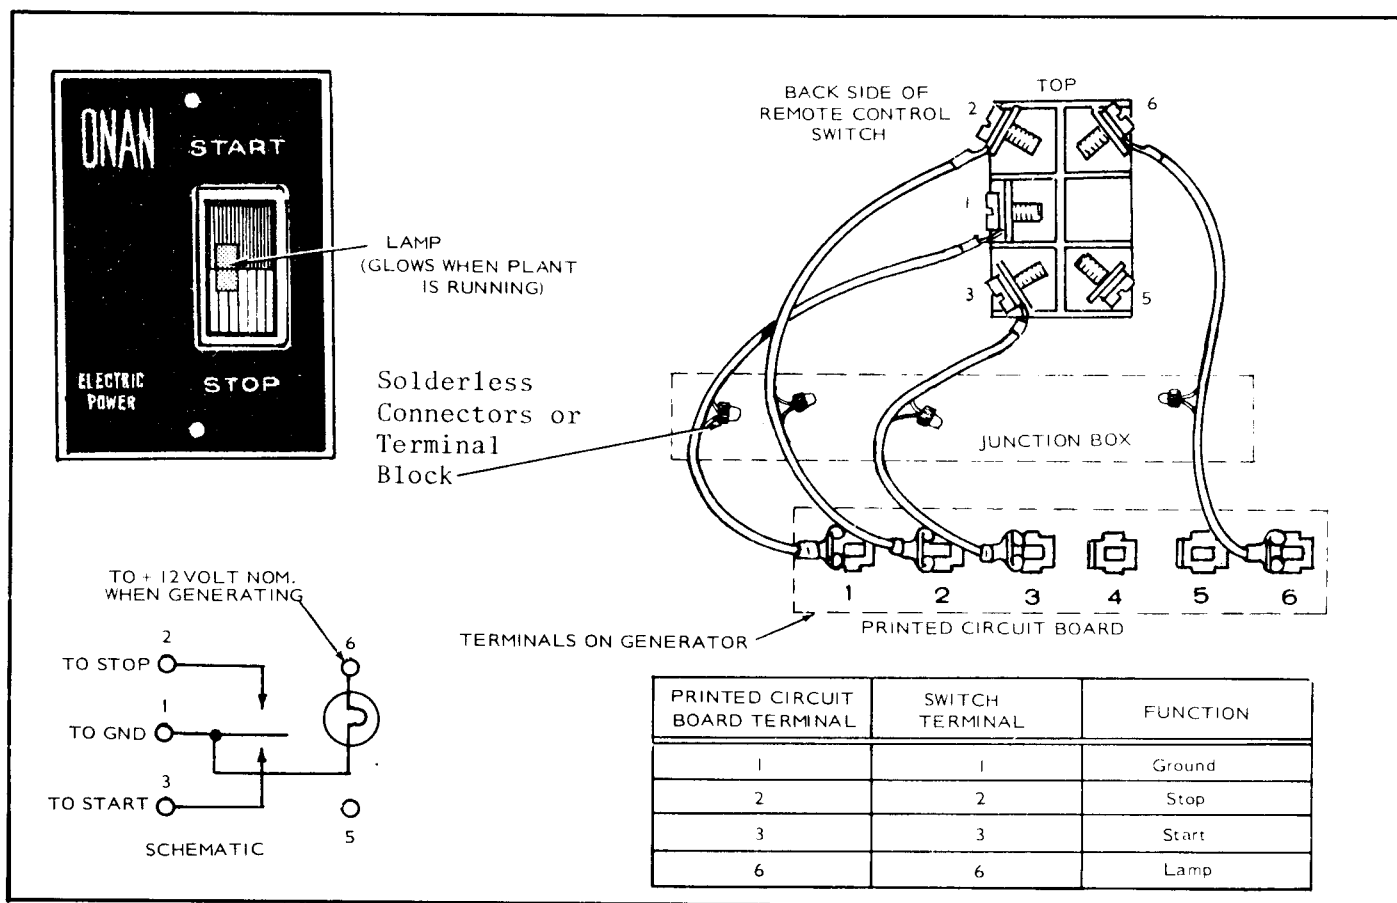

FIGURE 76. REMOTE CONTROL SWITCH (300-0985)
4. Make connections to remote switch (Figure 76), then secure remote switch to motor home panel with #5 wood screws.